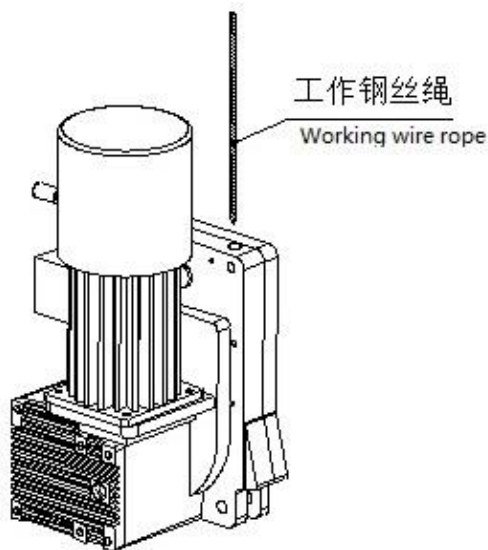

Figure3
3.3.1 Hoist model of ZLP800 Gondola is LTD80, hoist by electromagnetic brake motor, centrifugal speed limiting device, two speed system and the rope rolling mechanism, enhance the level second machine deceleration for gear transmission, the structure shown in figure3.ZLP800 a hoist structure (deceleration machine).
3.3.3 The lifting machine has automatic rope feeding function, and the operator only needs to insert the working wire rope into the entrance of the hoist. (see Figure3)